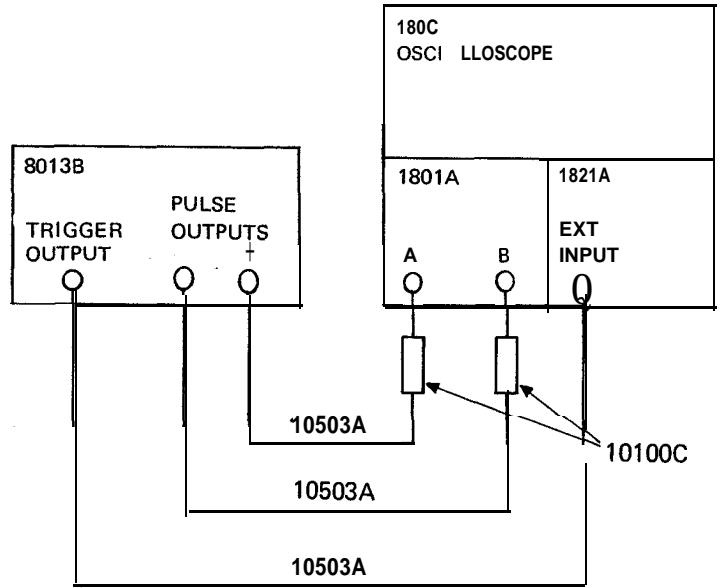

Figure 3-4. Initial control settings and test equipment
3-14 In this mode the 80138 requires no external signal to produce an output signal. Rate, delay, width, amplitudes etc. are all adjustable from the front panel controls. The initial control settings (also shown in Figure 3-1) are given to assist someone unfamiliar with the operation of the 8013B. The positive and negative pulse outputs 17 and 18_o and the TRIGGER OUTPUT (2) should be connected to an oscilloscope using a 50 ohm system (as shown in Figure 3-4). The oscilloscope (an HP 180C mainframe with 1801A and 1821A plug-ins) should be set with the sweep time at $20\mu\text{s}/\text{div}$ and the sensitivity at $2\text{V}/\text{div}$.